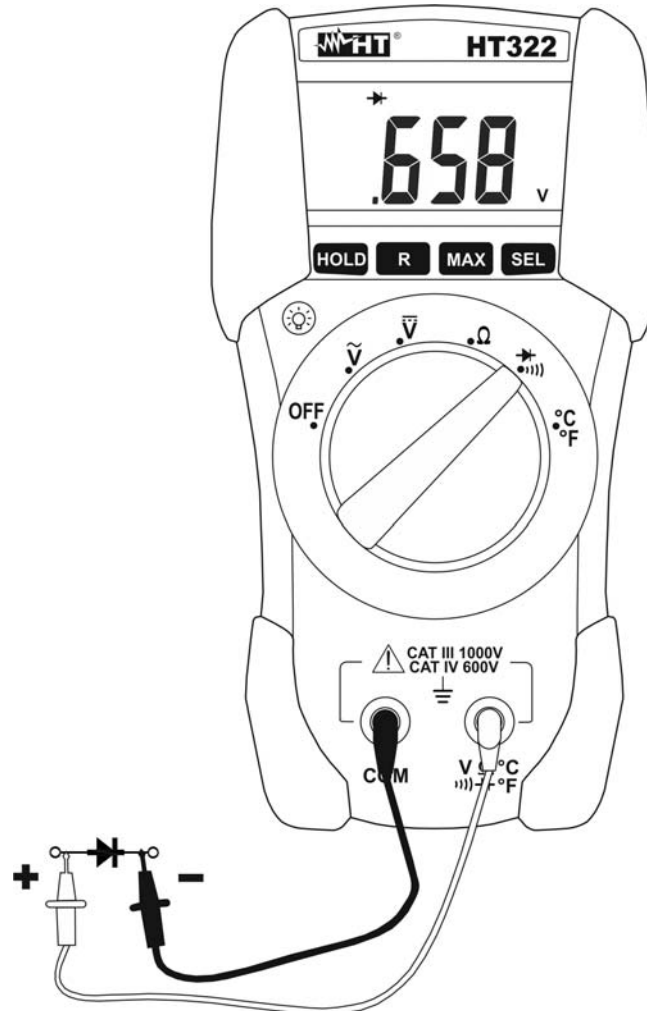

Fig. 5: Using the instrument for Diode test
2. Insert the test leads into the jack, the red plug into $\text{V}\Omega \rightarrow \text{diode symbol}$ (for HT321) / $\text{V}\Omega \rightarrow \text{diode symbol} \text{ } ^\circ\text{C} \text{ } ^\circ\text{F}$ (for HT322) jack, and black plug into **COM** jack (see Fig. 5)
3. Connect the test leads to the diode under test observing the proper polarities indicated in Fig. 5. The threshold voltage value expressed in mV under this situation is displayed